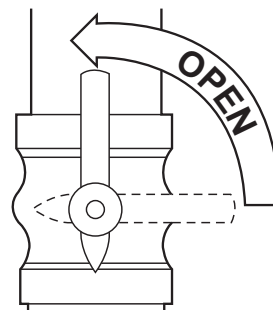

Fig. 11 – Open Valve
- Open the external manual gas valve, see Fig. 11.